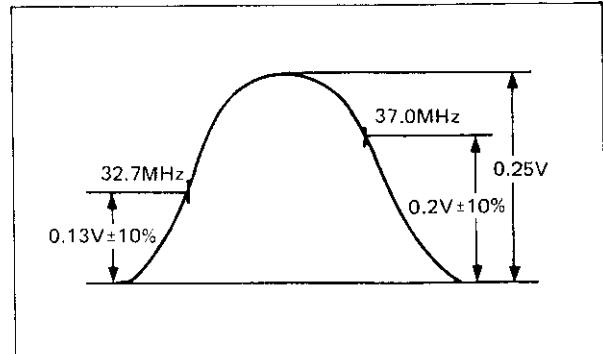

Fig. 6-4
1. Align the 32.7MHz marker with 0.13V, the 37MHz marker with 0.2V by alternately rotating cores T101, T102 and T103 (see Fig. 6-4).
- After connecting the cables as shown above and confirming that the correct waveform exists, connect the oscilloscope input terminal to the tuner AFC terminal (see Fig. 6-4).